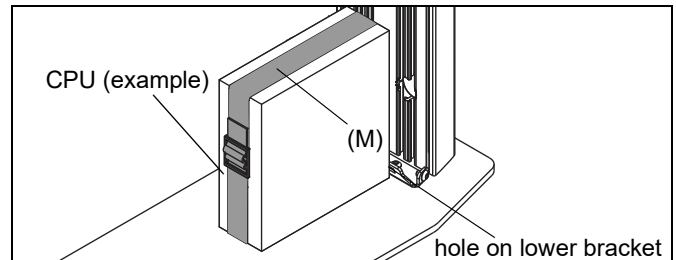

Figure 16
1. Route CPU strap (M) through hole on lower bracket and around CPU to secure CPU to column base. (See Figure 16)